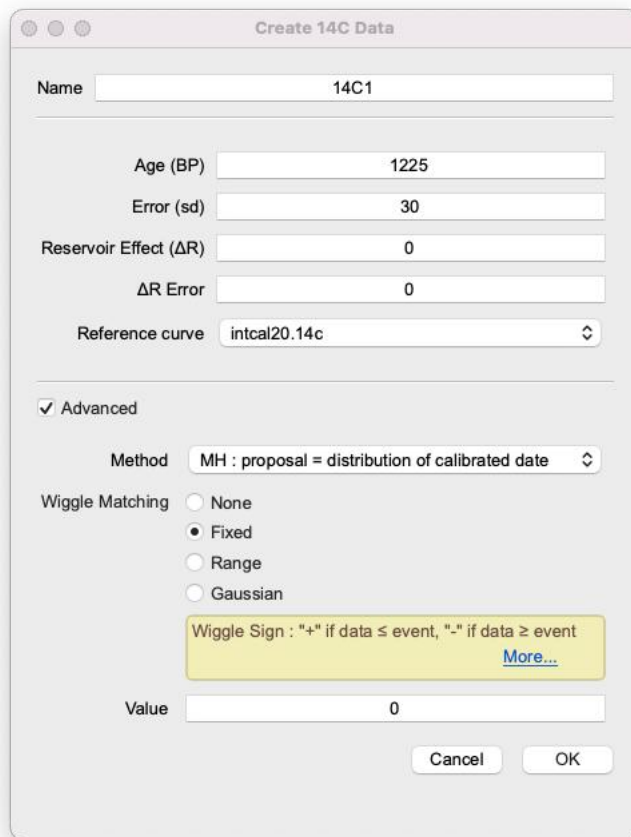

Figure 27: The radiocarbon measurement extension window with advanced options
Clicking on , the radiocarbon extension window will be opened (See Figure 27). Within this window, you can insert the reference name of the measurement, the age value given by the laboratory (**Age**), its associated standard error (**Error**), the reservoir effect ΔR with its associated standard error $\Delta R Error$ (data base: <http://calib.org/marine/>).
5.3.1.1 Advanced options You can change the MCMC method used to sample from the posterior distribution of the calibrated date associated with that dating: see Lanos and Philippe \(2017, 2018\) for more details. To do this, click on the **Advanced** menu from the same window (See Figure 27).